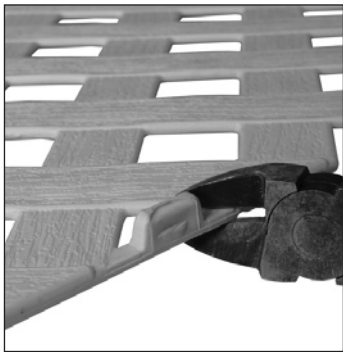

Fig. 3
1. If desired, you can remove all the tabs that are moulded around the perimeter of the lattice with a wood saw or cutting pliers to improve its appearance; cut close to the edge of the lattice to prevent a sharp burr (Fig. 3).